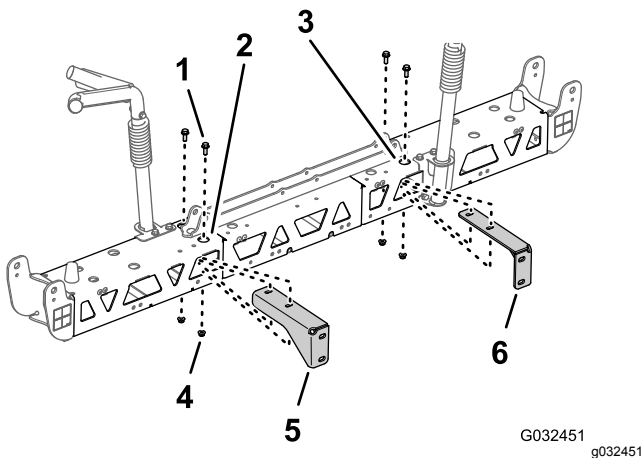

Figure 56
2. Align the holes in the right support bracket to the holes in the right truss frame as shown in Figure 56.
3. Assemble the right support bracket to the right truss frame (Figure 56) with the 2 flange-head bolts (3/8 x 1 inch) and 2 flange locknut (3/8 inch) that you removed in steps 2 and 3 of Removing the Support Brackets from the Center-Spray Section (page 27).
4. Repeat steps 2 and 3 for the left support bracket at the left truss frame (Figure 56).